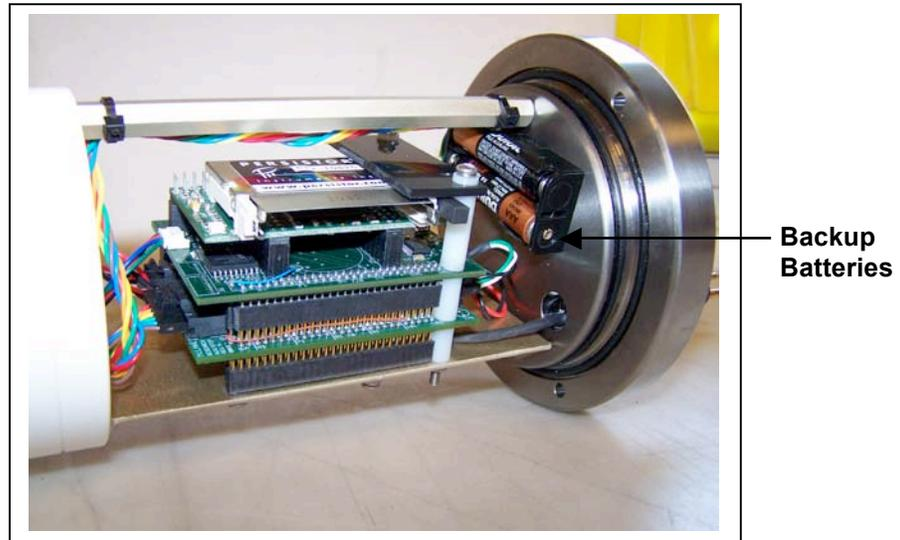

Figure H-9: Sediment Trap Backup Batteries
5. Install the backup batteries in the holder (see Figure H-9).